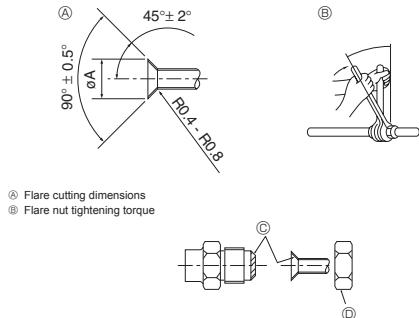

Fig. 5-1
Ⓐ (Fig. 5-1)
Ⓑ (Fig. 5-1)
5.2. Connecting pipes (Fig. 5-1)